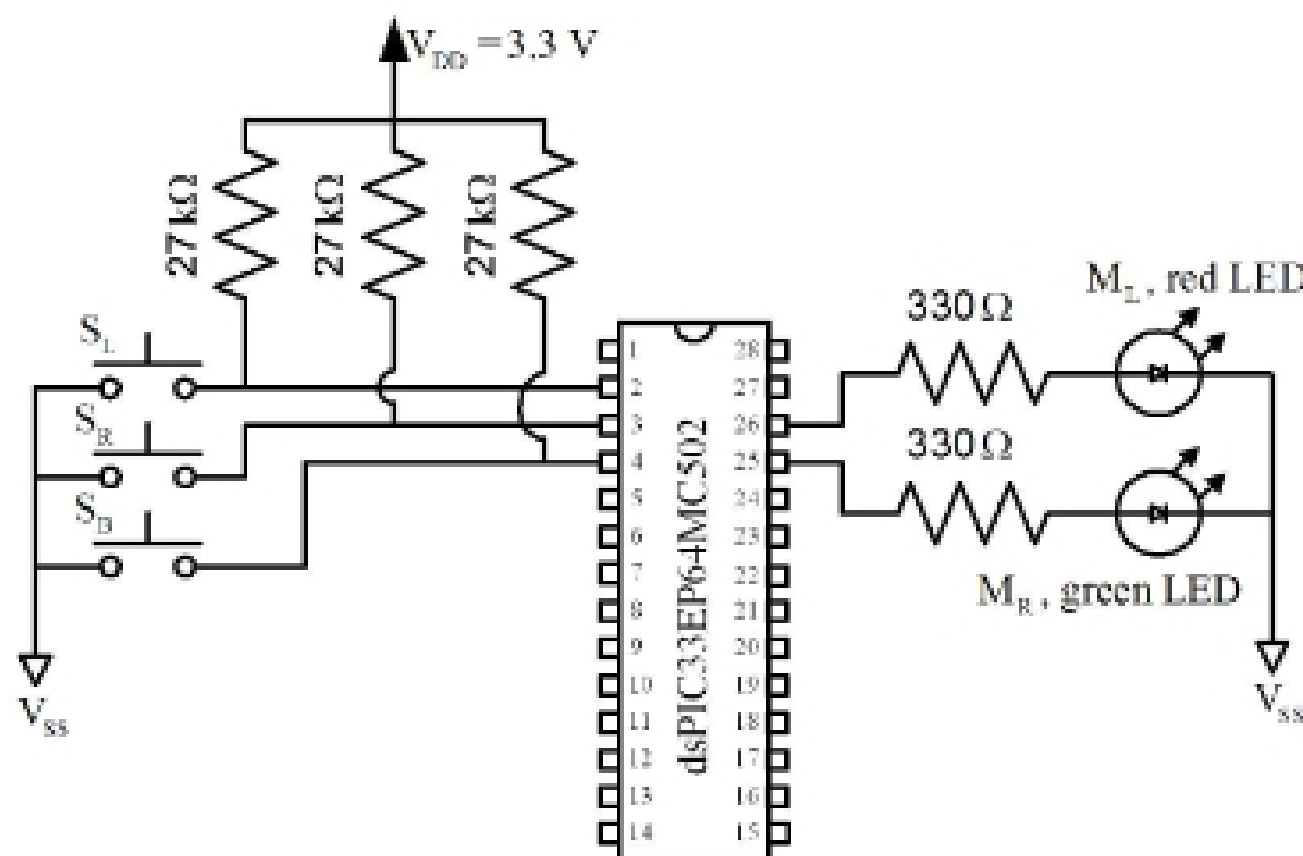

Figure 3: Microcontroller connections to input switches and output LEDs.
2. Connect the input switches and output LEDs as indicated in Figure 3. Note that pressing a given button sets the signal to a logic high state, while the corresponding logic level at the microcontroller peripheral I/O pin connector is at logic low state. For example, when the user presses the button S_L , the value of S_L becomes one while the corresponding logic level at pin 2 (RA0) is zero.